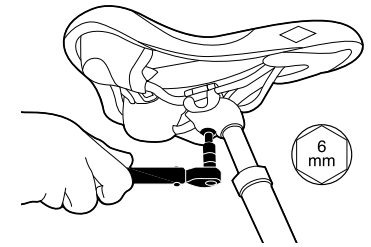

Figure 8. Tightening/loosening the fitting block
1. Loosen the screw that holds the saddle and seat post using a 6mm allen key as in Figure 8 to obtain enough play to easily move the saddle.